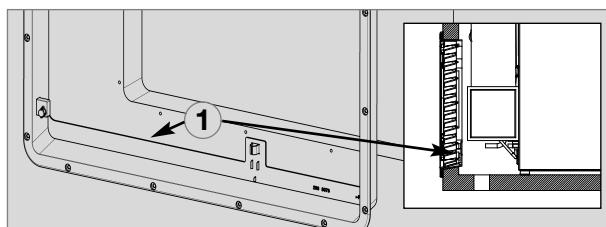

Fig. 17
- ① Ventilation grille LS 100 or LS 200
- ② Ventilation grille LS 200
**The gas burner must be located above the edge (1, Fig. 17).**